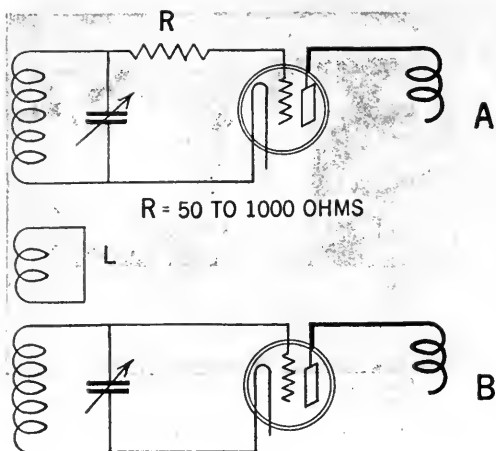
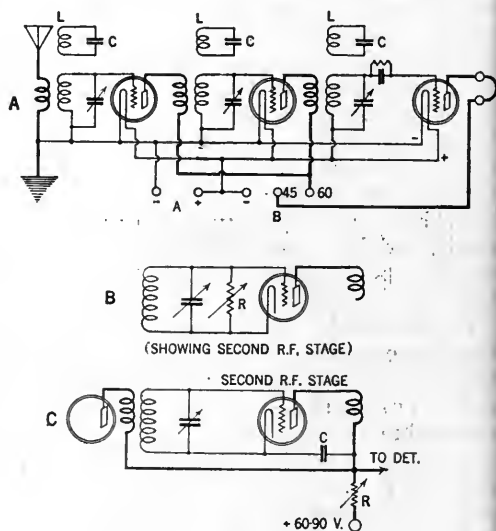

FIG. 1
FIG. 2
Examples of this type of absorption are numerous and are found in many amateur receivers and in a few commercial sets. The most common procedure is to place a resistance of from fifty to a thousand ohms in the grid circuit of the radio-frequency amplifier, (A, in Fig. 1). Another and widely advocated arrangement is to wind from two to eight turns of wire (L) with a diameter of about two to three inches, placing the coil close to the primary and secondary of the radio-frequency transformer (Fig. 1, B). As might be expected both of these systems work satisfactorily on the low waves where the losses are just sufficient to stabilize the receiver, regeneration with good signal strength and selectivity being permitted. However, on the upper side of the scale, the last trace of regeneration is dampened and the signal itself is absorbed. Variable controls, for obvious reasons, are only an impractical solution.
A most simple and illustrative example of differential absorption is found in a slight modification of circuit B in Fig. 1. If, instead of short circuiting the terminals of the stabilizing coil L, a fixed condenser is shunted across it, as in LC of Fig. 2 (A), an oscillatory circuit will be formed which will absorb energy only about the wave to which it is tuned. If LC is given a resonance or tuned point at about two hundred and seventy-five meters, it will absorb sufficient power to stabilize the receiver on the short waves, having little or no effect on the higher waves where external stabilization is not required. This is the system first introduced by Austin, in 1916, for the control of oscillations in long wave heterodyne reception, later used by Mr. L. M. Cockaday in a receiver designed by him. This method is at present employed in the two-stage r. f. "Starr" set.
Another interesting, though slightly inferior, method of differential stabilization is the shunting of high resistances (R) across the r. f. tuning condenser (in Fig. 2, B). This has the effect of increasing the "phase difference" of the circuit. The phase angle (unfortunately a rather technical consideration) is a determinant of the power loss in any circuit which increases with the frequency. Hence, the loss will be greater on the higher frequencies or lower wavelengths.
Another very interesting and efficient method of stabilization, though not strictly a loss method, should be considered by the experimenter studying these possibilities. For several reasons, the tendency of a circuit to oscillate, or to become unstable, increases with the plate voltage. Hence, in any fairly stable circuit, for instance, an average r. f. circuit, a gradual reduction of the plate voltage to just below the critical point provides an adequate and efficient method of regeneration control. This principle is employed in the Deresnadyne receiver and in others of similar design. This idea is illustrated in Fig. 2, C.